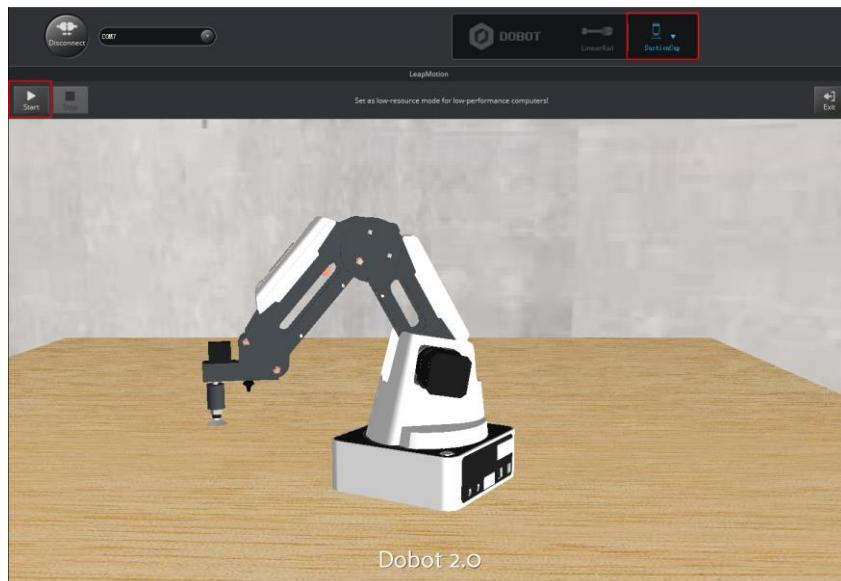

Figure 5.112 Click Start
**Step 5** Choose **SuctionCup** as the end-effector on the **DobotStudio** page, and click **Start** to control the **Dobot Magician** with your hand gesture, as shown in Figure 5.112. To maintain the Dobot Magician in a stable state, move your hand into the workspace of the Leap Motion controller while keeping your palm upward. And turn your palm down, and then move your hand above this area to control the Dobot Magician.